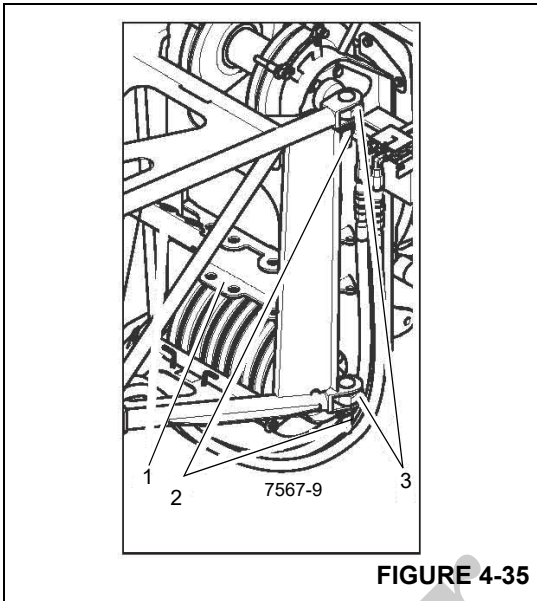

FIGURE 4-35
16. Using a ladder or suitable lifting device, remove the retainer clips and pull the pins out of the holders (1) (Figure 4-35). Install the pins (2) into the connecting lugs (3). Secure with the retainer clips.
15. Using a ladder or suitable lifting device, remove the retainer clips and pull the pins out of the holders (1) (Figure 4-35). Install the pins (2) into the connecting lugs (3). Secure with the retainer clips.